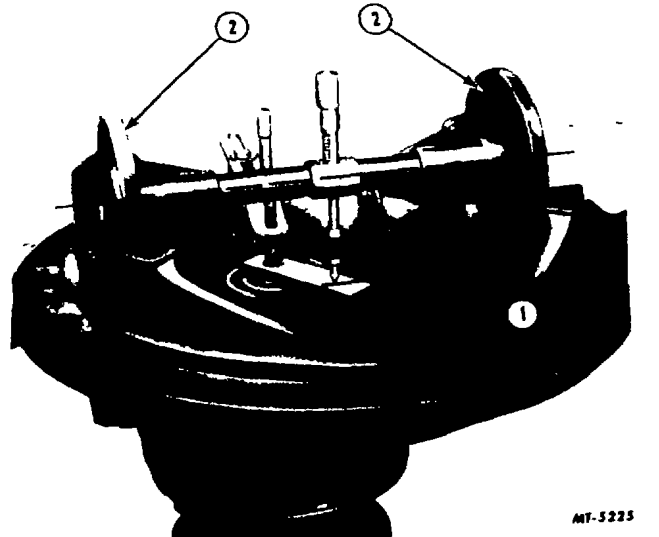

Fig. 28. Assembled Gauge in Position
4. Mount assembled SE1065 gauge in bearing bores of carrier as shown in Fig. 28. Make certain that bearing bores are clean and free of nicks and burrs. Adjust micrometer so it is directly over end at a 90 degree angle to the step plate. Take micrometer reading. Run the micrometer thimble down to measure the distance between the center of the ring gear and the step plate, or in the event of a spiral bevel type drive, measure the distance to the face of the pinion itself. Make a note of this measurement.